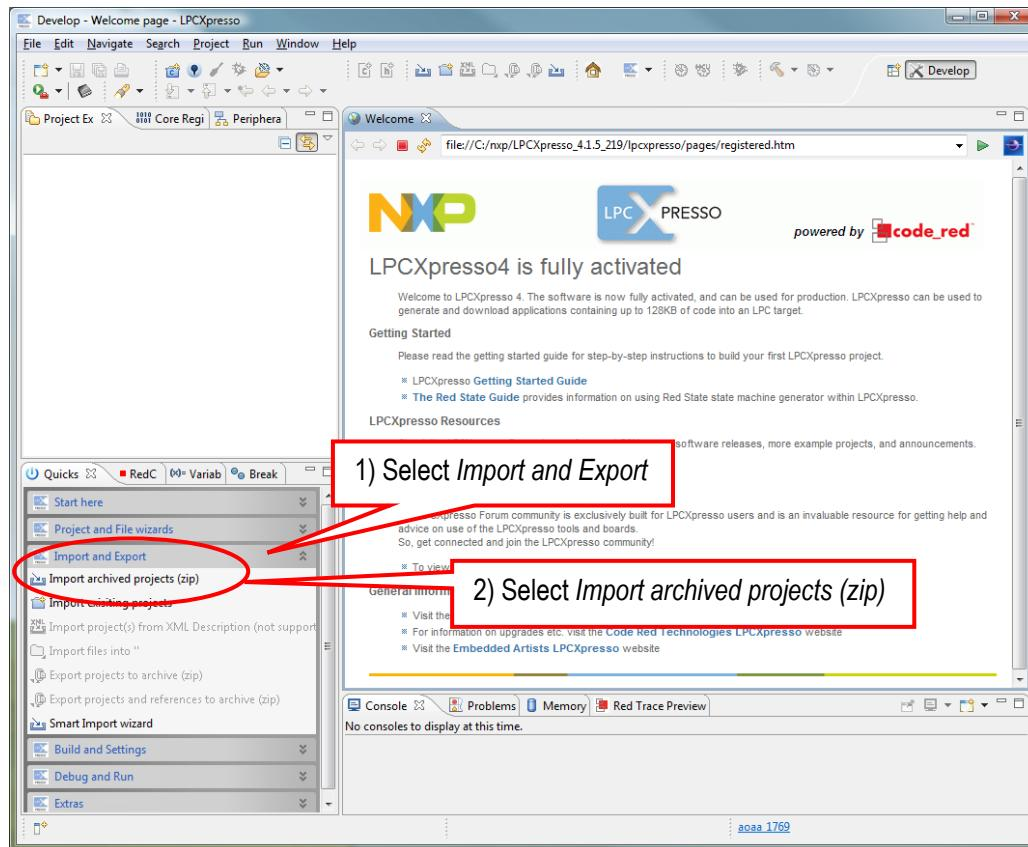

Figure 22 – LPCXpresso IDE Import Archived Project
- 4) Select the *Import and Export* tab in the Quickstart Panel and then *Import archived projects (zip)*, see Figure 22 below.